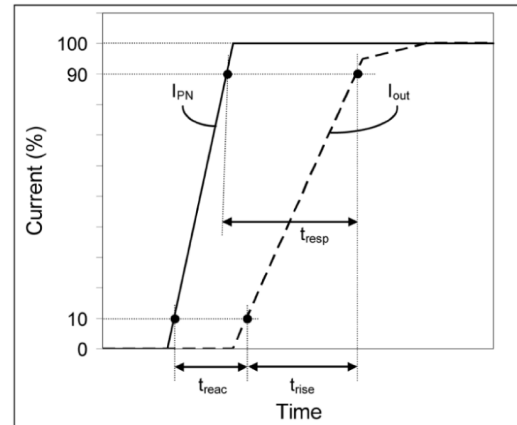

Fig.2: Definition of reaction time (t_{reac}), rise time (t_{rise}) and response time (t_{resp}).
1) $I_P = I_{PN}$ with di/dt of 100 A/ μs . See Fig.2.